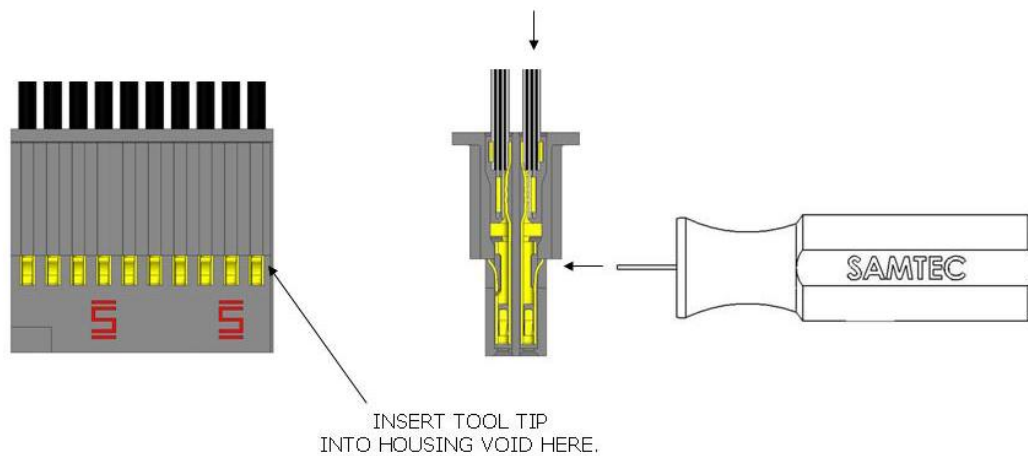

FIGURE 2
The Tiger Eye™ contacts and terminals have a retaining lance that can be released through an access cavity located on the top and bottom of the housing as shown in **Figure 2**. The Extraction tool has a tip that is inserted into the cavity to depress the lance the correct amount for contact removal.
2. From the top or bottom of the housing insert the Extraction Tool into the lance cavity as shown in **Figure 2**. This is typical for all contacts.